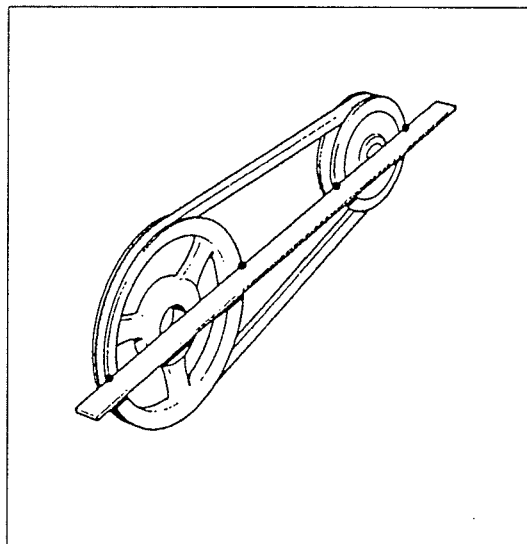

Fig. 18 V-belt pulley adjustment
- Check that after tension adjustment and tightening the motor mounting nuts, both pulleys are in a straight line to avoid excessive wear of the V-belt. Hold a straight edge against compressor and motor V-belt pulleys as shown in Fig. 18: edge must touch pulleys at four points, otherwise readjust motor.